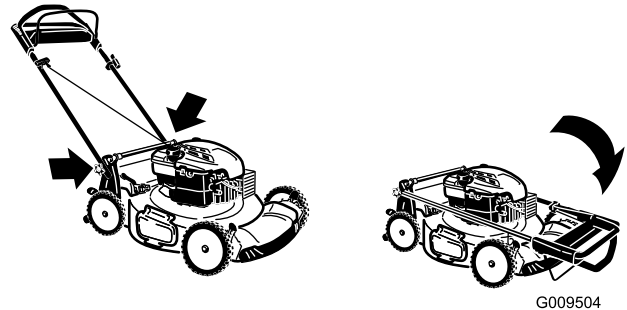

Figure 29
3. Fold the upper handle forward as shown in Figure 29.